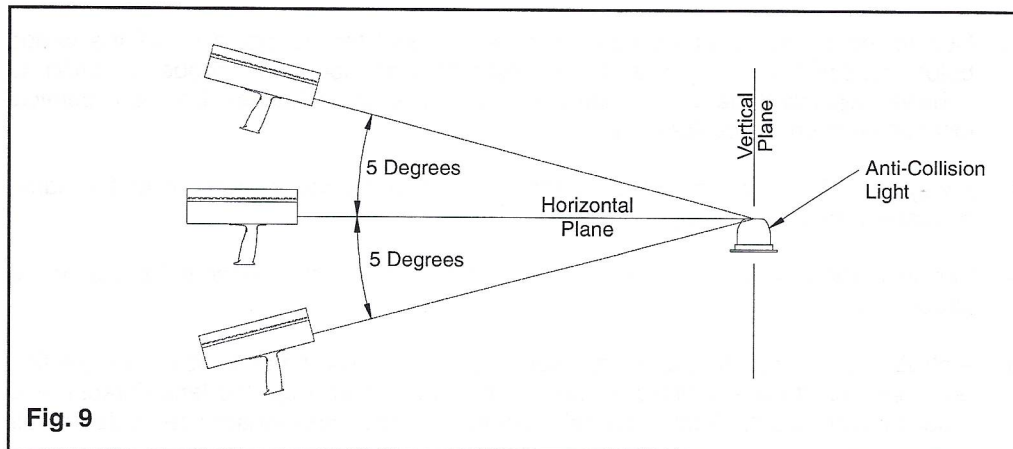

Fig. 9
4. **ACQUIRING THE STROBE LIGHT.** Turn Strobe on. **DO NOT LOOK DIRECTLY AT THE STROBE.** In order to obtain the correct reading, the sensor must be aimed directly at the strobe within  $\pm 5^\circ$  of the strobe's horizontal plane (Fig. 9). Once the instrument begins displaying readings, adjust the aim slightly until a maximum reading is obtained.